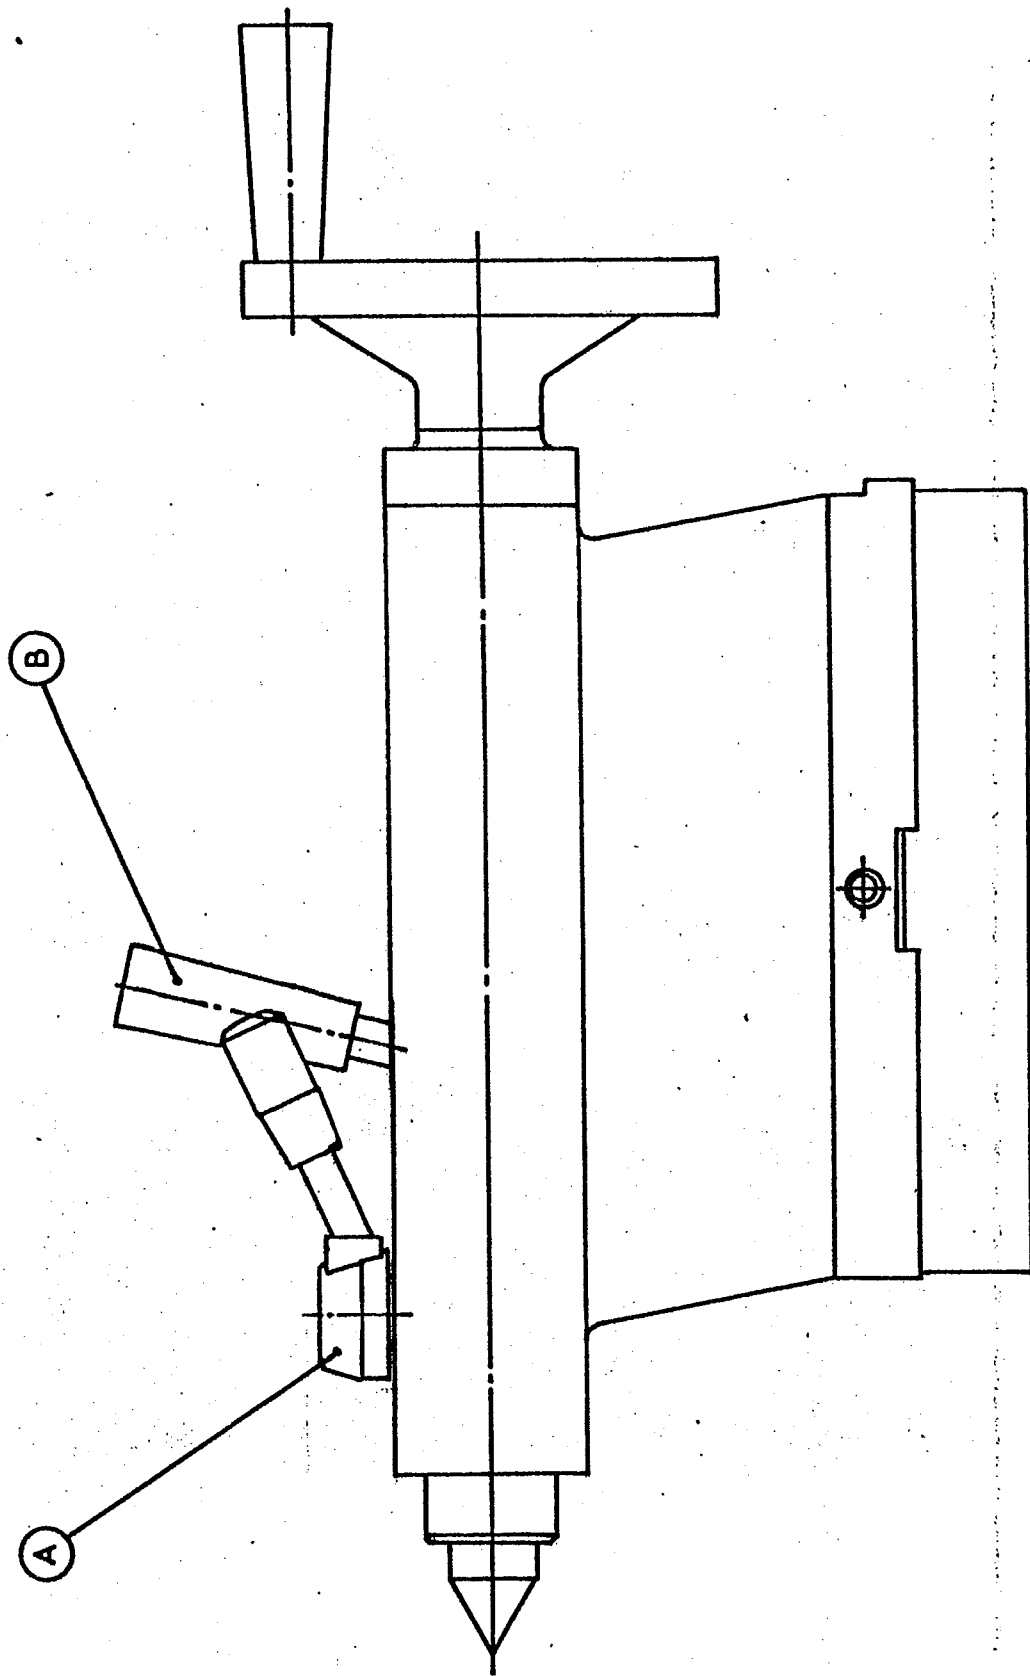

FIG 8.
The tailstock is locked to the bed by means of a bed clamp operated by lever (B) Fig.8 The quill is locked by moving lever (A) away from the headstock in a clockwise direction.